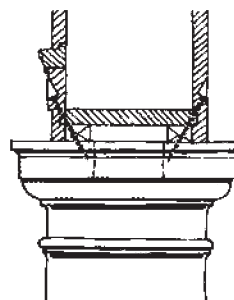

FIGURE 7-7
1. Drill holes through soffit at an angle that will direct screws into capital (or plug, in the case of ornamental capitals). Attach (Fig. 7-7)